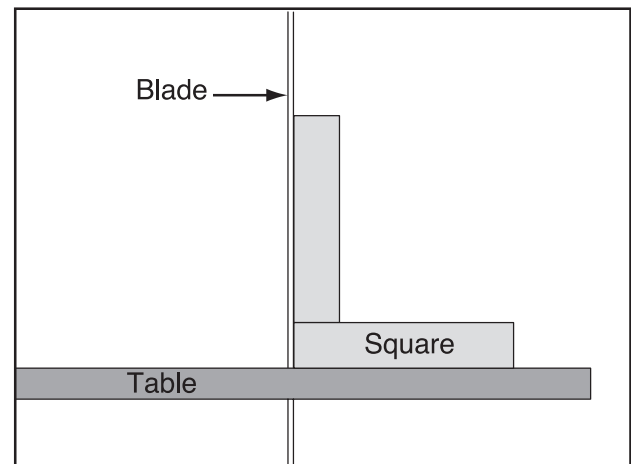

Figure 79. Squaring table to blade.
3. Loosen the guide post lock knob, raise the guide post, lock it in place, then place a machinist's square on the table next to the side of the blade as illustrated in **Figure 79**.